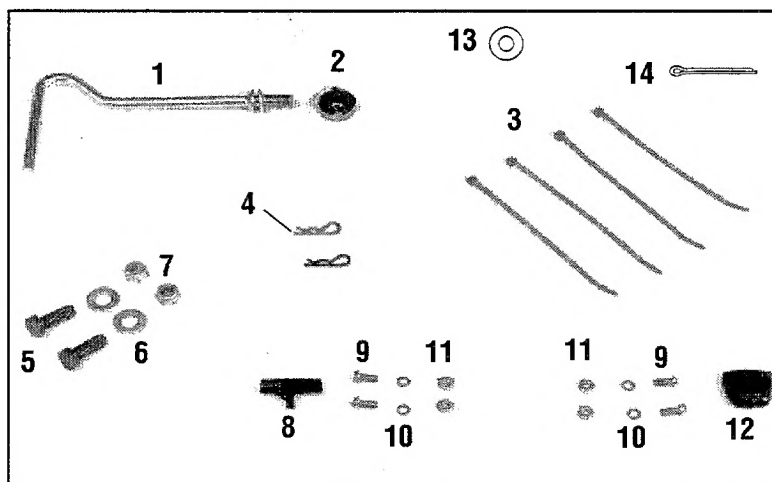

Figure 2-1: Loose hardware (see parts list).
4. Remove the separate hardware bag from the carton. Check that you have the items listed below and shown in Fig. 2-1. Contact your local dealer or the factory if any items are missing or damaged.